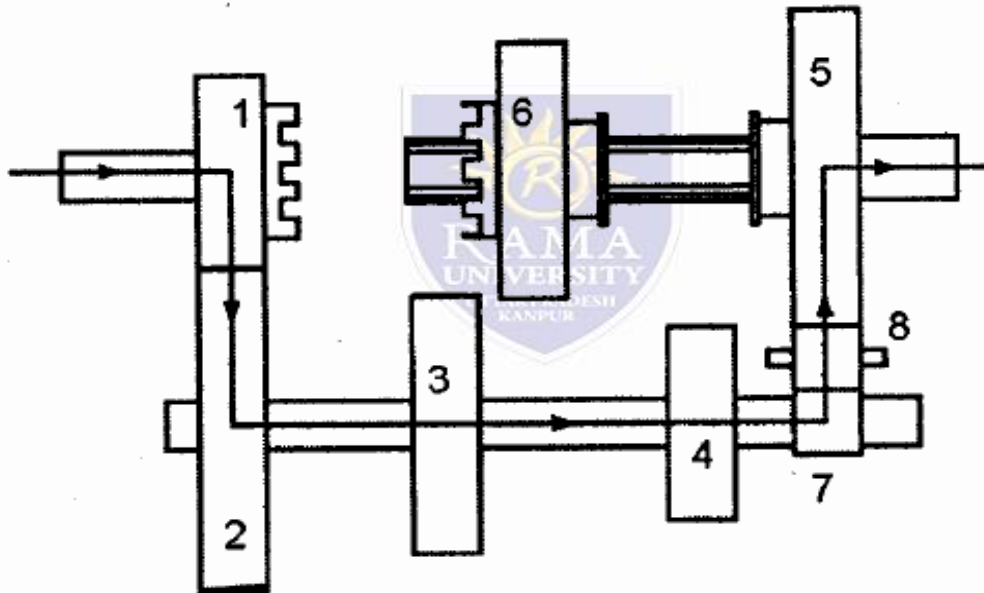

***Figure 3.19 Third or top gear***
- When the gear shift fork is moved toward direction 3, the clutch (6) will be meshed directly with the clutch gear (1) and gear (3) is unmeshed, as shown in Figure 3.19.